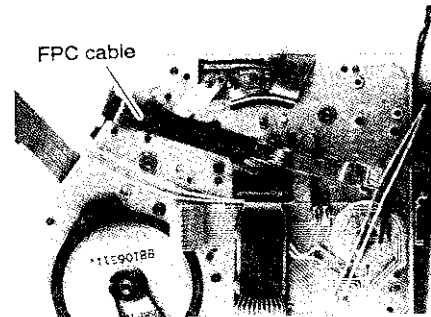

Fig. 3-11-1
- ① FPC cable connected to the A/C head is taped on the reverse of the main plate with pressure sensitive adhesive double coated tape (see Fig. 3-11-1). Detach it from the tape carefully and take it off the slant T.
- ② Remove screws ③ and ④, and then slant T.